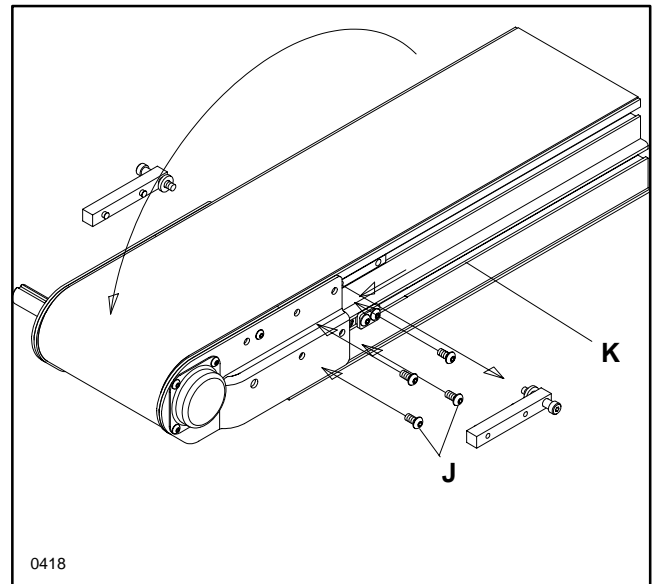

Figure 6
- Rotate the tail installation tools around the shoulder screws (I), until the pins on the tools engage the holes in the tail section (used for mounting the upper T-bar).
- Very carefully rotate the tail section down into position. Install the tail cover plate screws (J of Figure 6) through the tail cover plates into the lower T-bars. Screws are to be snug, but not tight at this time; screws will be tightly secured after proper conveyor belt tracking is adjusted.
- Remove the tail installation tools. Slide the upper T-bars (K) under the tail cover plates. Install the upper cover plate screws.